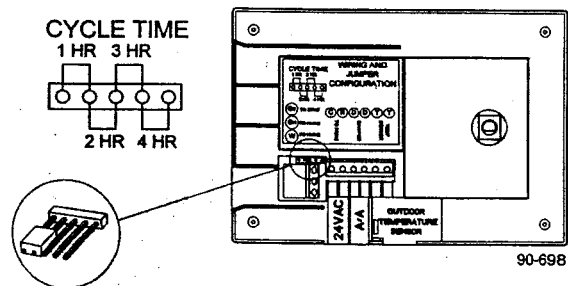

Figure 2. Cycle Time
- The jumper on the 5-pin header determines the cycle time interval. The interval can be 1, 2, 3, or 4 hours. (Default setting is 1 hour.) Refer to Figure 2.